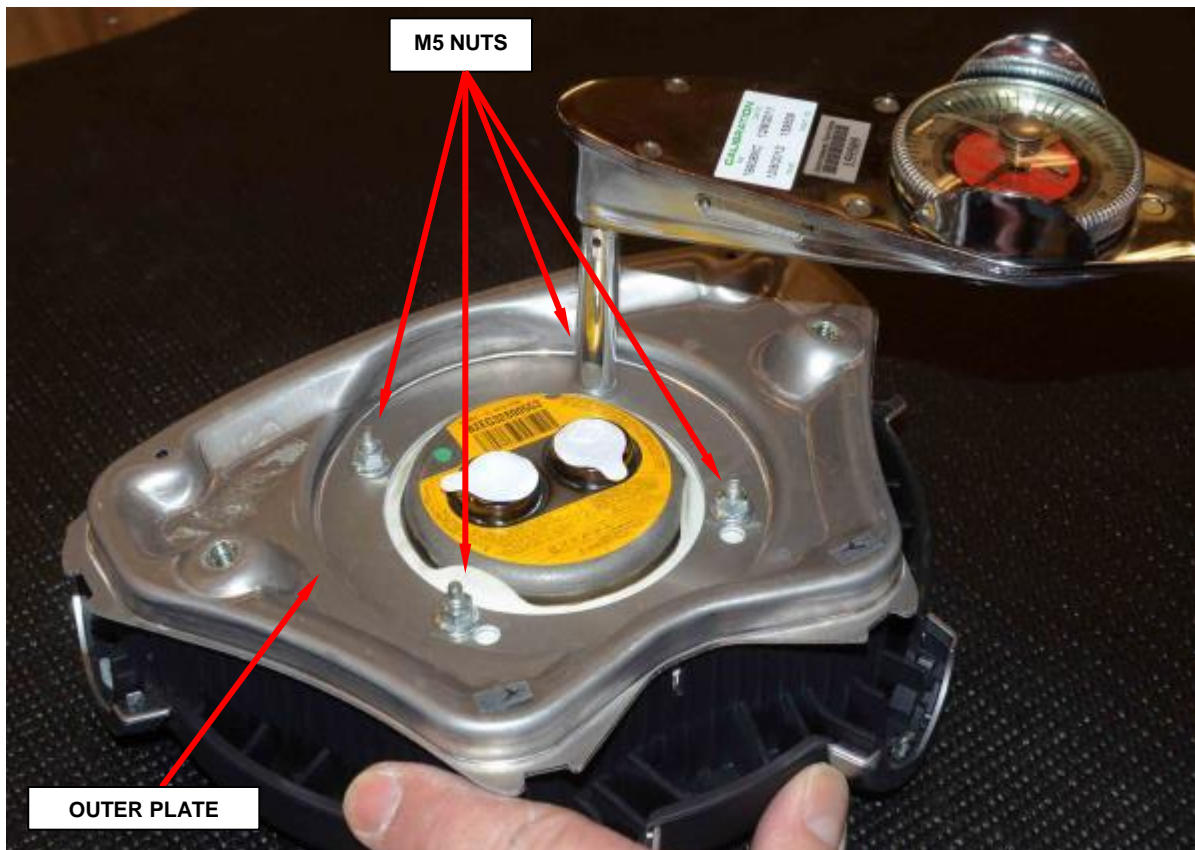

Figure 12 – Inflator Orientation
**NOTE:** The inflator orientation is correct as the cushion hole pattern has offset spacing. The inflator label should be pointing up in the driver airbag module (Figure 12).